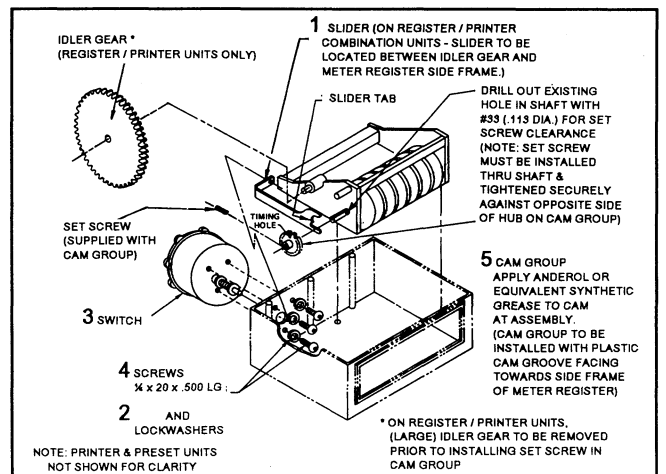

Figure 2. Kit Assembly.
5. Drill out existing hole in shaft with #33 drill (.113 dia.) for set screw clearance. Install the cam group provided in the kit onto the meter register wheel shaft with the timing hole at the top center and secure with the set screw as shown in Figure 2.
9. Check alignment of the slider tab with the cam surface. (See Figure 2.) The tab should be in contact with the cam surface, and the slider **should move freely** back and forth.